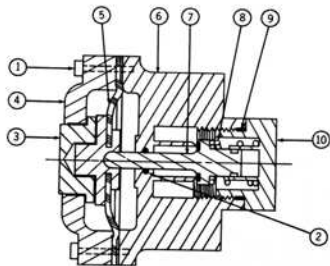

Figure 2
- E. Check regulator for damaged seals or diaphragm. Reference Figure 2, page 16 for servicing.
- B. Check regulator for damaged seals or diaphragm. Reference Figure 2, page 16 for servicing.